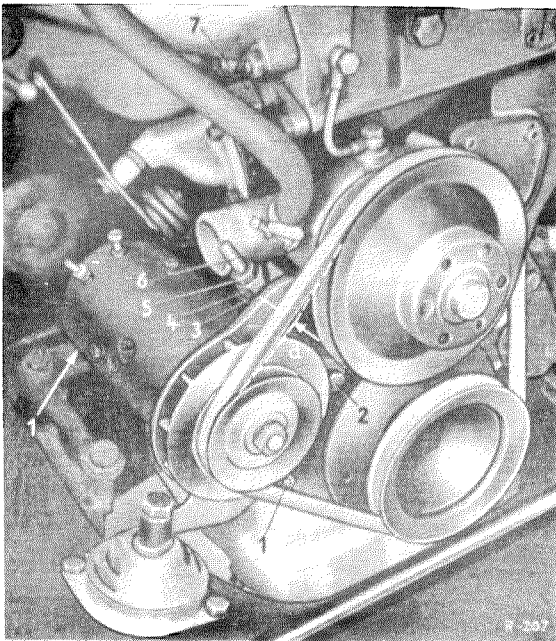

Fig. 15—11/1
2. Remove the nuts of the generator mounting (1) and the clamping device nuts (2—6), and turn the clamp nut (4) far enough to the right to allow the generator Vee-belt to be removed (Fig. 15—11/1).
3. Fix the tensioning screw (6) at the crankcase. Place the generator in position, fit the clamp wedge fixing screw (3) and install all the nuts together with their lock washers, but do not tighten up. Do not forget the ground lead.
**Note:** In the first version, the generator is supported at the front and the rear between two rubber washers, and the tensioning screw at the bottom at the crankcase is similarly supported between two rubber washers. In the second version, however, (as of Engine No. 65 004 76) only the generator is supported at the front between two rubber washers (Fig. 15—11/3).